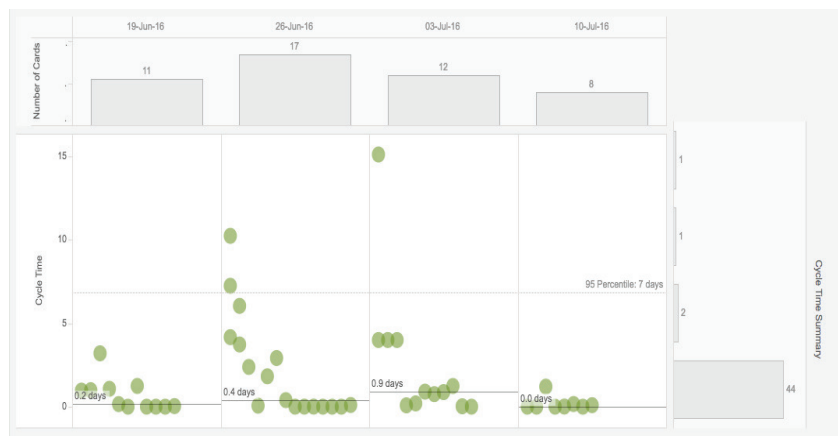

Figure 8 LT scatter plot showing probability of completing work
A scatterplot view of Cycle Time (CT) with percentile lines (as shown in Figure 8) shows the variability in the time it takes to complete work. Here, we see that CT ranges from less than one day to 14 days. The horizontal 95 Percentile marker reveals that 95% of the work is completed in less than 7 days. This helps us to be more predictable. When people ask, "When will it be done?" the CT (and/or LT) chart comes to the rescue. Given this data, we can say with a high level of confidence that 95% of these types of work requests will be completed within 7 days. Probabilistic data is incredibly useful and powerful to improve decisions. The capability to forecast how long tasks will take helps with prioritization.